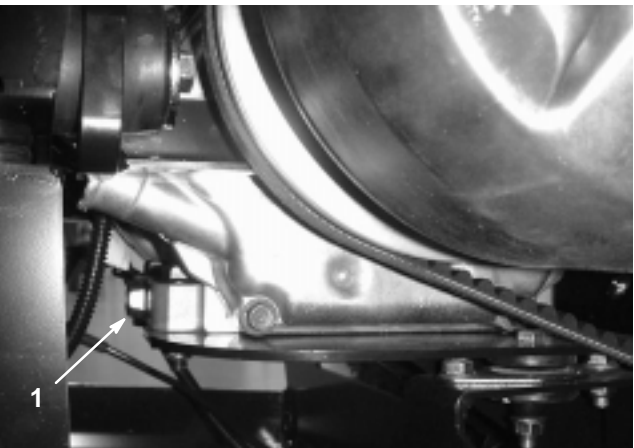

Figure 27
- 5. Remove the drain plug (Fig. 27) and let the oil flow into a drain pan. When the oil has drained completely, install the drain plug and torque it to 13 ft.-lb. (17.6 N·m).